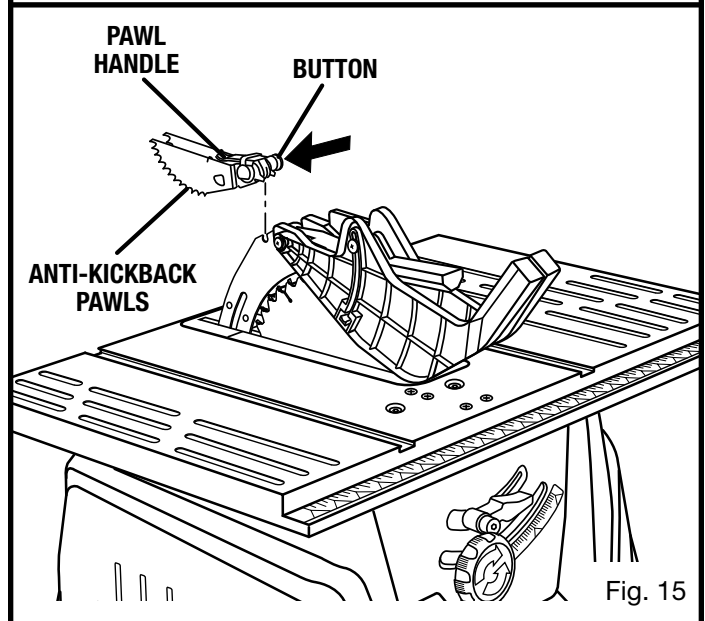

Fig. 15
- With the front of the blade guard raised, lower the back of the guard into the middle hole of the spreader/riving knife. Push the front of the guard down until it is **parallel to the table** (see figure 15). If the blade guard is not parallel to the table, the riving knife is not in the spreader (or “up”) position.